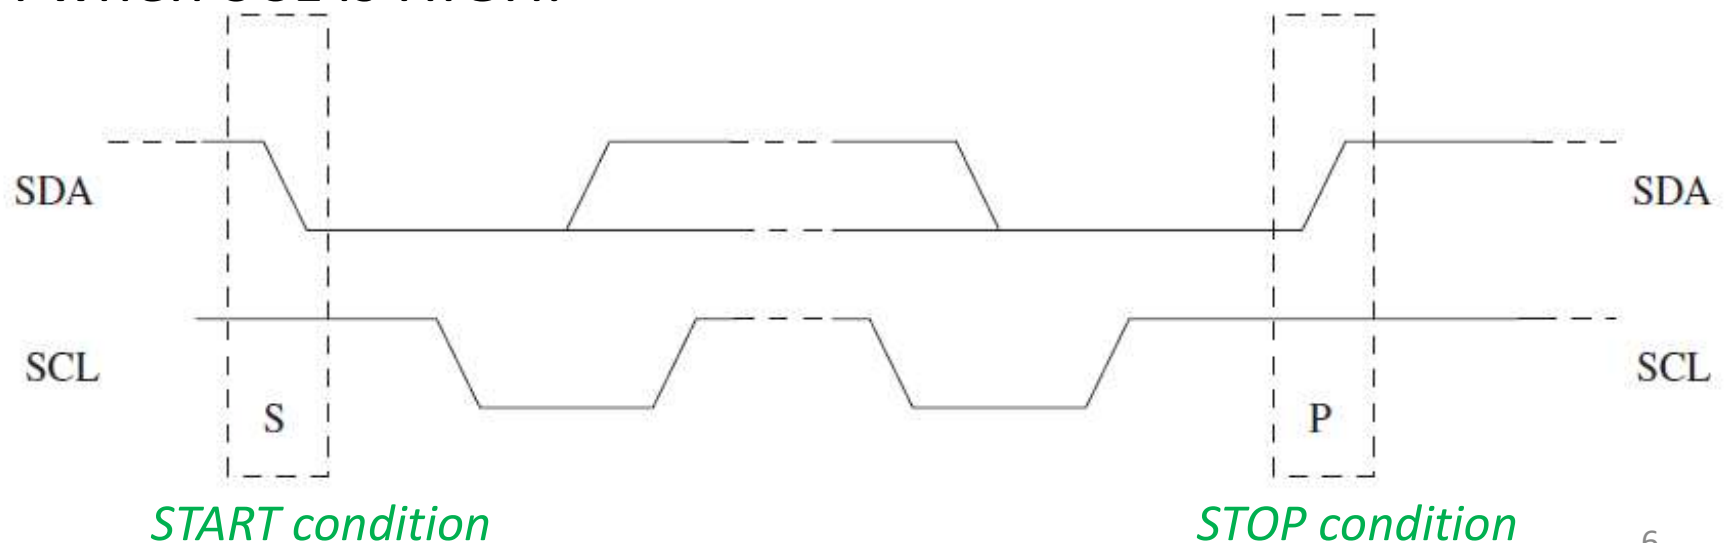

Figure 4: I2C START and STOP conditions
- A session is started and terminated as shown in Figure 4, where a “START” is initiated when the master pulls the SDA port (pin) LOW while the SCL signal is HIGH, whereas a “STOP” condition is initiated when the master pulls the SDA port HIGH when SCL is HIGH.